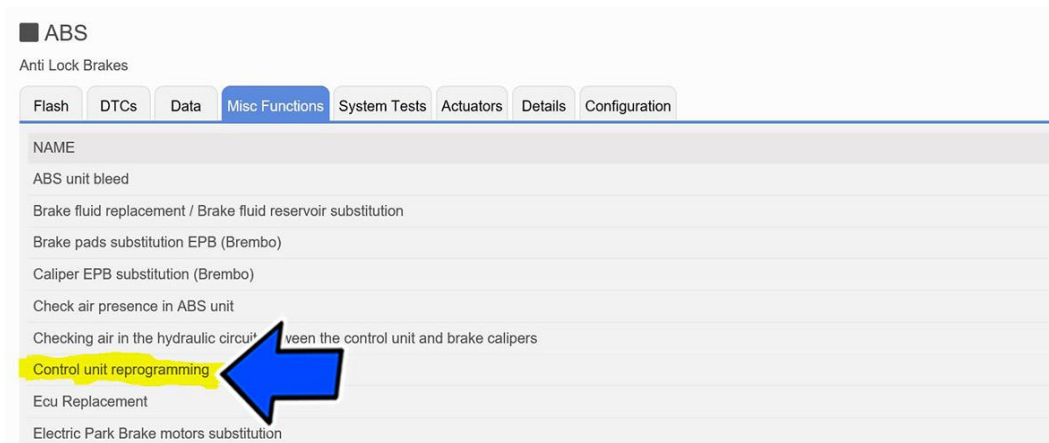

Figure 18 - Control Unit Reprogramming
- From the ABS “Misc. Functions” tab, select and run the “Control Unit Reprogramming” routine (Figure 18).